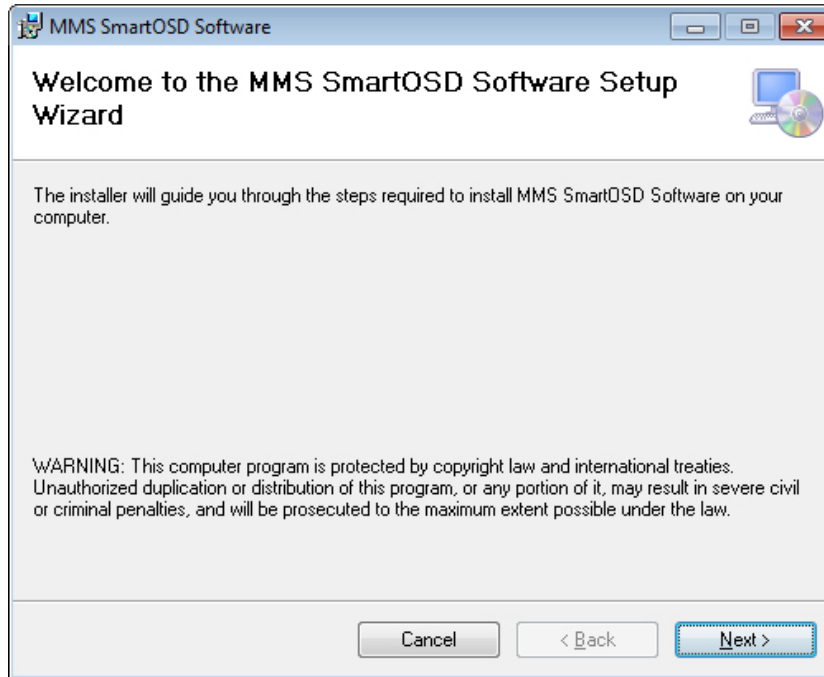

Figure 5-2: Setup Wizard Welcome Window
Step 4: The Setup Wizard welcome window appears (**Figure 5-2**).